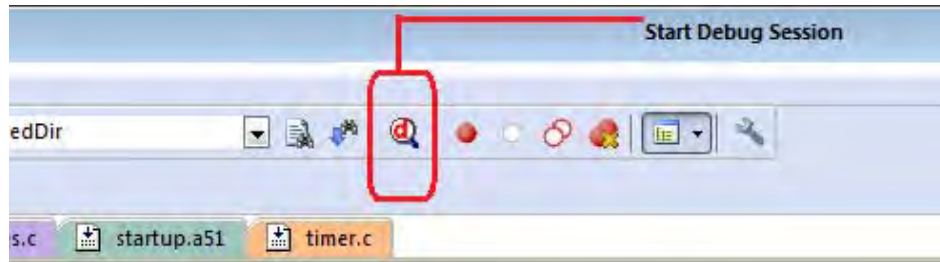

Figure 29. Beginning a Debug Session
13. Start your debugging session by clicking the **Start/Stop Debug Session** icon, as indicated in Figure 29. A default Windows configuration of the debug session is shown in Figure 30.